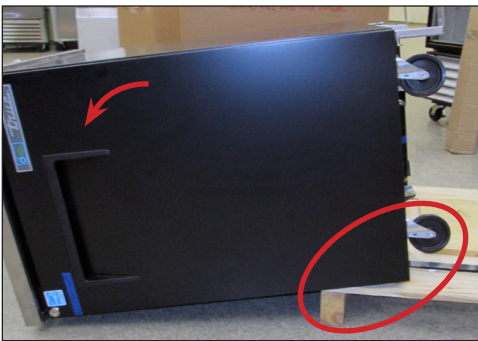

Fig. 4a. Tilt the unit sideways with the hinged side up. Keep castors from resting on the pallet to prevent movement.
4. Ensure the unit's hinges will be on top. Then, tilt the unit off the pallet and then rest the unit on the cardboard. See figs. 4a and 4b.